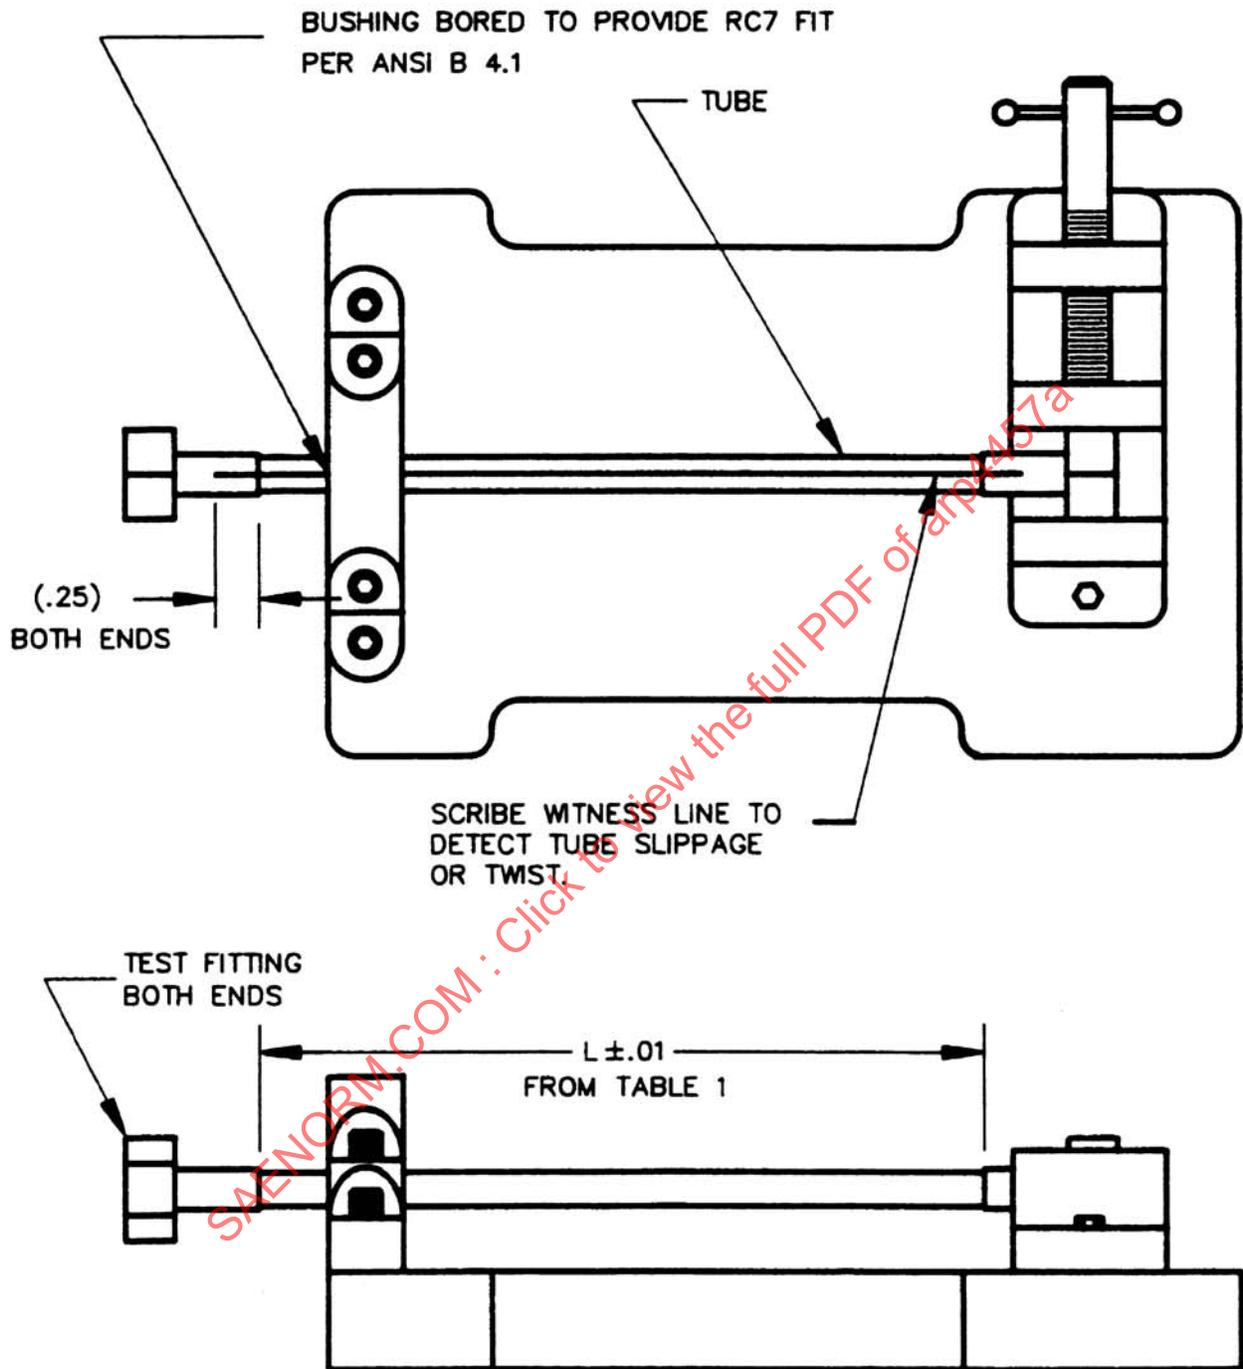

FIGURE 1 - Test Apparatus
A typical test setup is shown in Figure 1. The test apparatus shall support the tube with minimal friction to insure maximum torque transmission to the fixed end and to prevent bending forces from being applied to the specimen.
- 4.2 Clamp the test assembly into the test stand as shown in Figure 1.